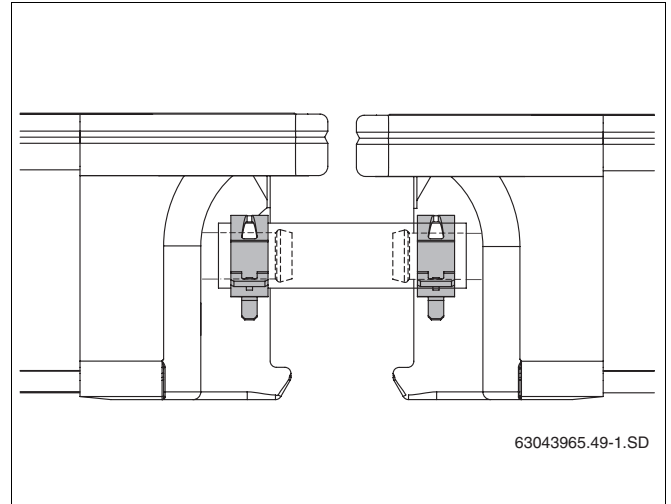

Fig. 47 Solar hose with hose jubilee clips
- ▶ Secure every solar hose to the collector connection using a hose clip (Fig. 47).